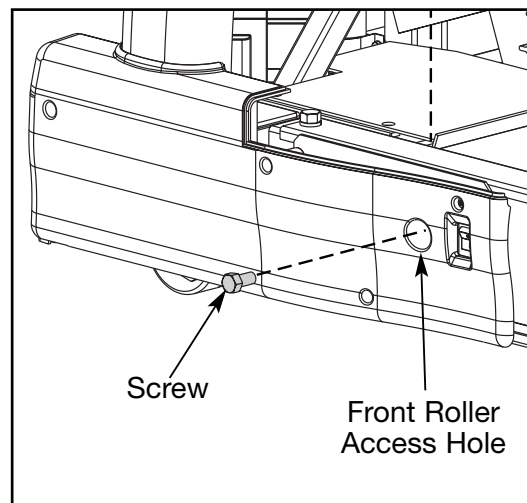

Figure 8
- A. Place a 9/16" socket wrench with a 3" extension in the right front roller access hole. Loosen but do not remove the right front roller screw. See Figure 8. **NOTE:** The right screw will stay on the front roller. You do not need to remove it for this procedure.
- B. Place a 9/16" socket wrench with a 3" extension in the left front roller access hole. Remove the left front roller screw. See Figure 8. **NOTE:** Leave the front roller in place until step 9C.
- B. Using a 9/16" socket wrench with a 3" extension, remove the two front roller screws. See Figure 8.
- B. Using a 9/16" socket wrench with a 3" extension, insert the two screws that fasten the front roller to the frame. **NOTE:** Tighten each of the two screws evenly, making sure not to tighten one screw too many turns before moving to the other screw. See Figure 8.